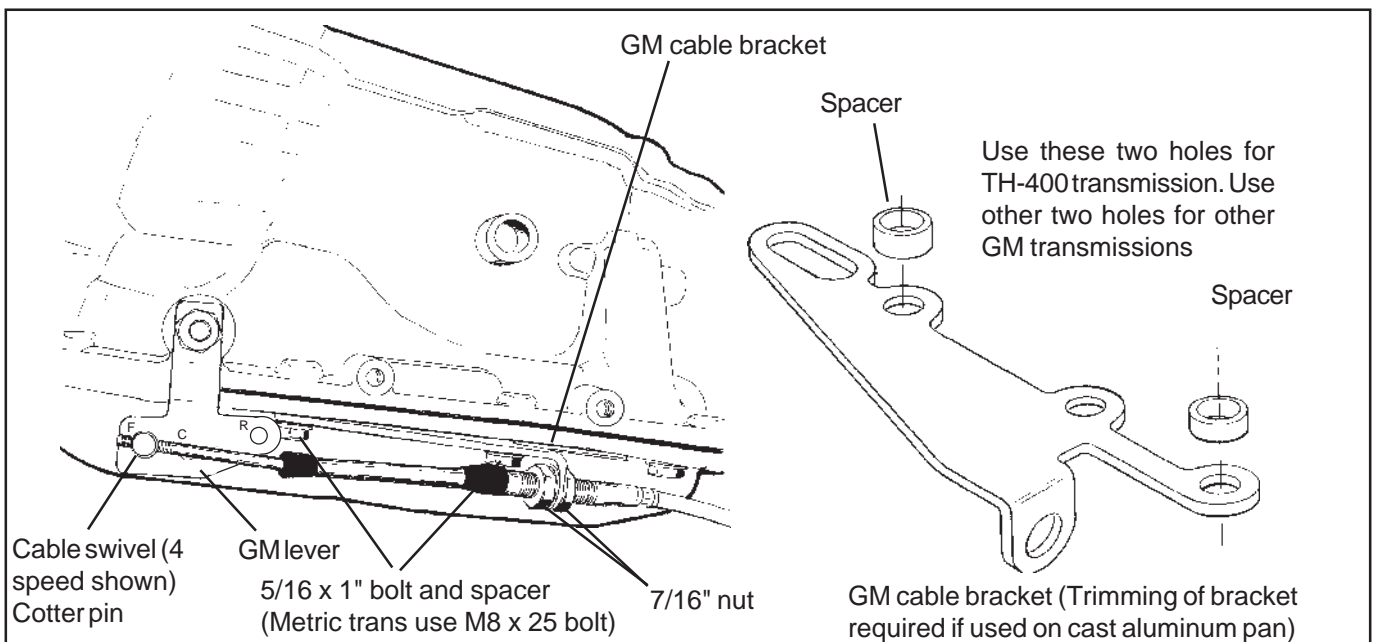

Figure 3
STEP 8. If you have not already done so, remove the stock selector lever nut and the selector lever. Discard the stock lever and the stock shifter linkage. Install the **B&M** selector lever in position using the stock selector lever nut (**See Figure 3**). Torque the nut to 23 lb. ft. The lever should move smoothly from front to rear with a positive click in each gear position.
STEP 9. Remove the two transmission oil pan bolts from the middle of the left side of the oil pan. Install the cable bracket in position (**See Figure 3**). The bracket must be installed with two spacers between the pan and the bracket. (If your transmission is equipped with a cast aluminum oil pan, these spacers should be omitted however the cable bracket may have to be modified). Install the two supplied 5/16-18 x 1.00" bolts and tighten to 12-13 lb. ft. Do not overtighten as this can damage the pan gasket.
STEP 10. Route the shifter cable according to **Figure 3**. Avoid kinks and sharp bends and route the cable away from hot engine or exhaust parts.